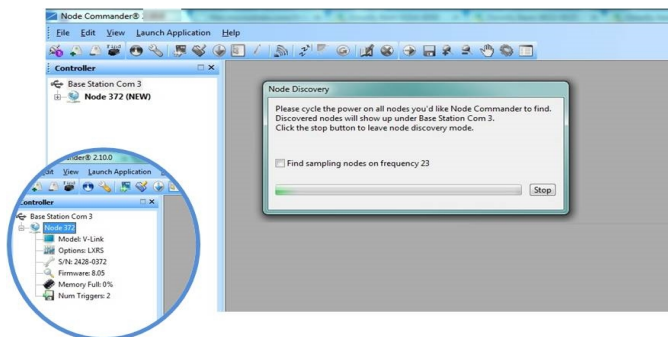

Figure 7 - Node Discovery
3. When the device status indicator on the node ends the rapid flash sequence and begins pulsing at one-second intervals, it has completed the normal boot-up sequence and is running in idle mode. At this point the node should be listed in the Controller window, and scanning can be stopped by selecting the Stop button in the Node Discovery window. Additional node information can be viewed by selecting the “+” symbol next to the node name. If the information list appears, communication has been established (Figure 7 - Node Discovery).